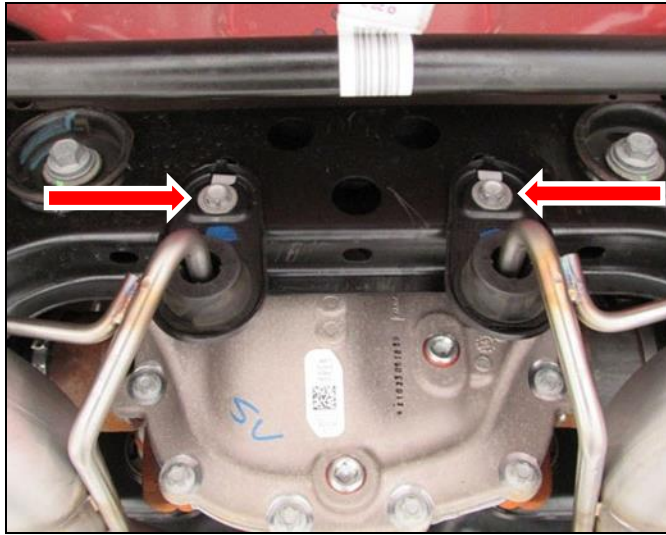

Figure 1
4. Remove (x2) 13mm head bolts securing the left and right side front OE muffler isolation mount bracket to the chassis (**Fig. 1**).